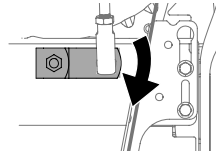

Figure 27
- Make sure the shift lever on the back of the transmission is rotated downward to the full extent of its rotation (Figure 27).